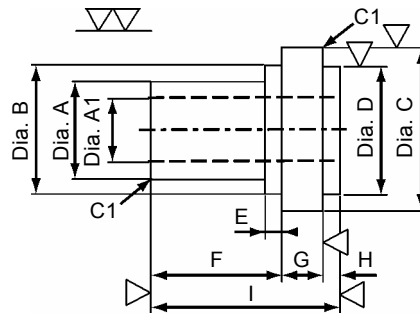

Figure 6: Special Tool for Press Fitting of Pin Bushing
5. For special tool for press fitting of pin push (24): Refer to figure 6 + table 5